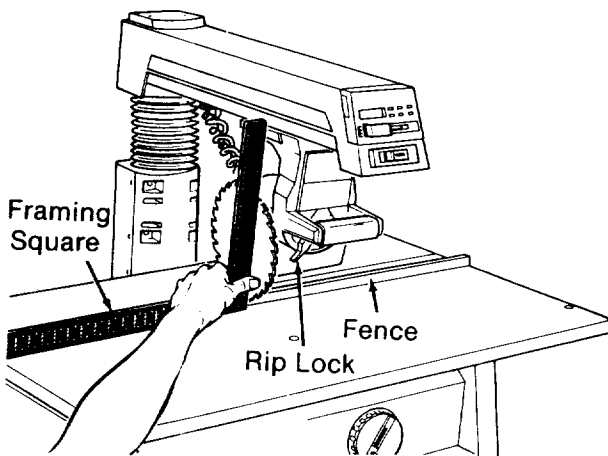

Fig. 72
5. Place the long edge of the framing square on the *table* and the short edge against the *blade*. Make sure that the square is against the blade surface and not the set of a tooth. (Figure 72).